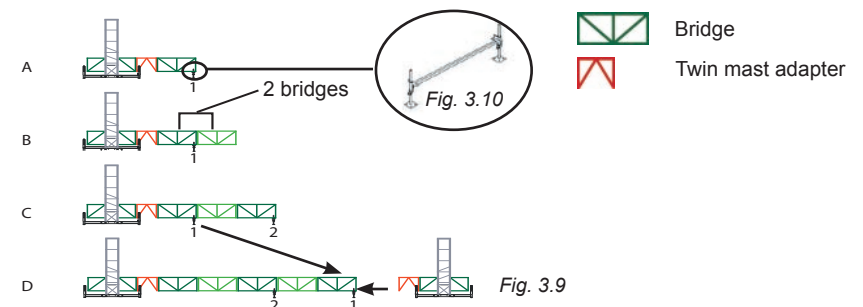

Fig. 3.9
- 3- If using a bridge lifting bar, leave it in place. After two additional bridges have been installed, slide a second bridge lifting bar under the last bridge installed, as shown in fig. 3.9, on p.23. Alternate the position of the bridge lifting bars every two bridges added throughout the installation process.